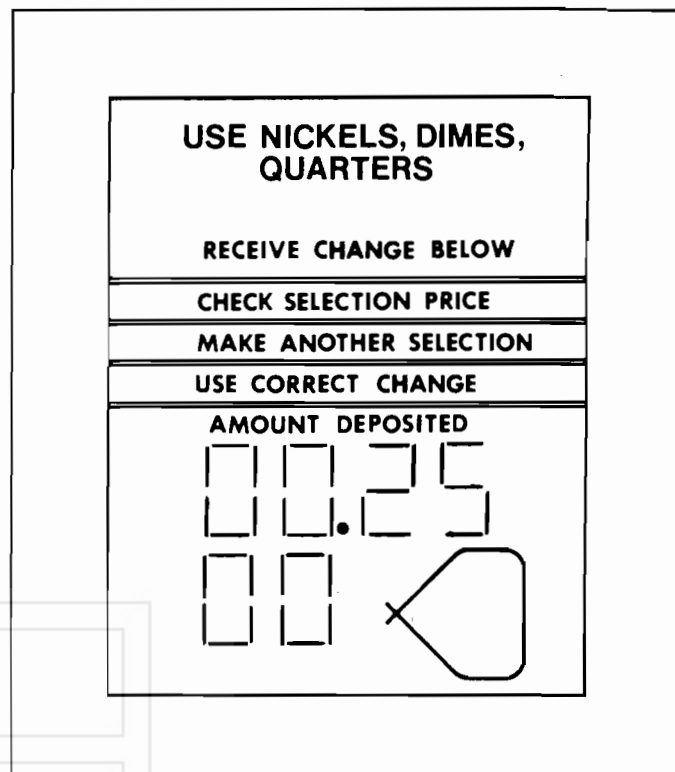

Figure 16.
- B. Press the letter and then the number for the first selection to be checked. The display will show the price and product code that selection is programmed for (Figure 16). Check the displayed price against the price tab on the shelf for that selection.
- C. To display number of vends by any product code. For example, enter the product code (63) then the letter G. The number of vends and the product code will be displayed. Repeat until all desired information has been displayed and recorded.